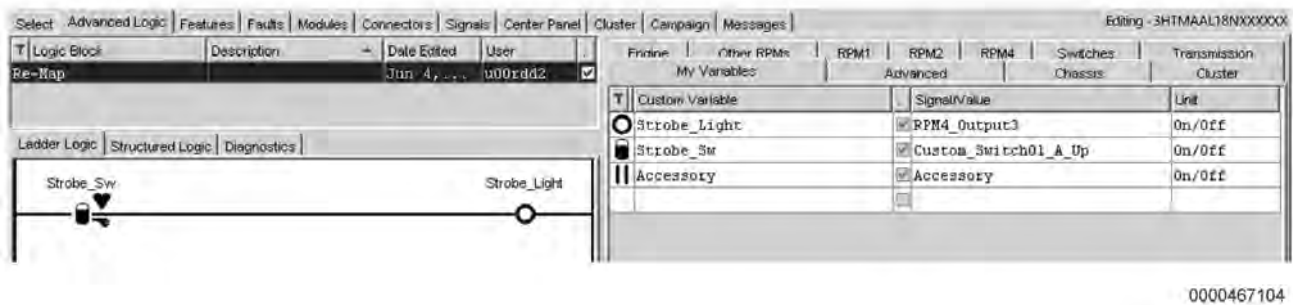

Figure 22 Signal with Remapped Output
6. Press the ENTER key. The Signal / Value tab will now display the new output pin (Figure 22).